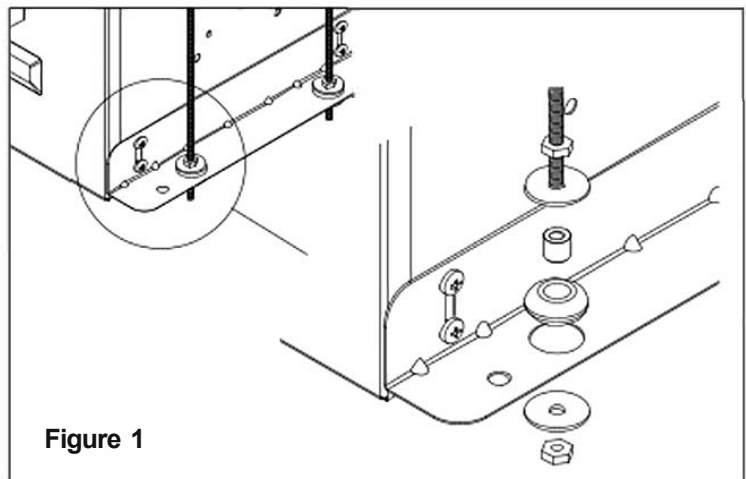

Figure 1
3. Insert neoprene grommets into large holes in mounting brackets. Thread one nut into each 1/4-20 threaded support rod (supplied by others) followed by one flat washer and a shaft sleeve. Insert end of support rod and sleeve into grommet. Install another flat washer and nut on end of support rod, refer to Figure 1.